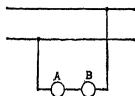

FIG. 18. Lamps *A* and *B* are in series.
(1) **Series.** When the pieces are connected in **tandem**, or one after the other, they are said to be in **series**. Lamps *A* and *B* of Fig. 18 are in series.